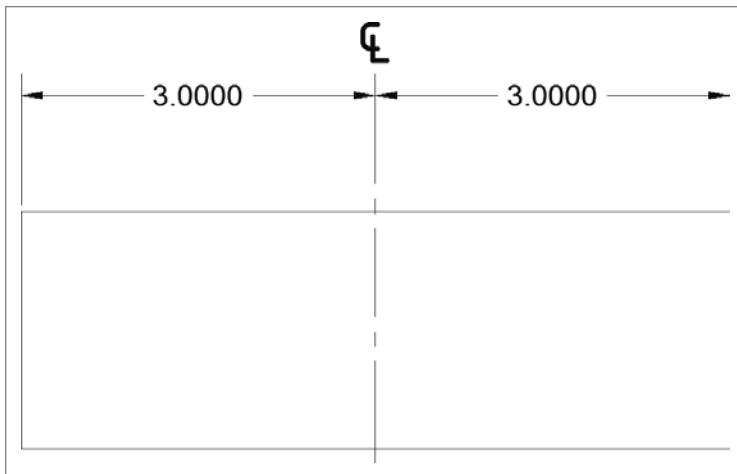

FIGURE 12.71 The center line symbol and a center line used as part of two dimensions
- Turn off running osnaps, be sure Polar Tracking is on, and click the same grip you did in the previous step. Move the symbol up slightly to create a space between it and the center line (see Figure 12.71).